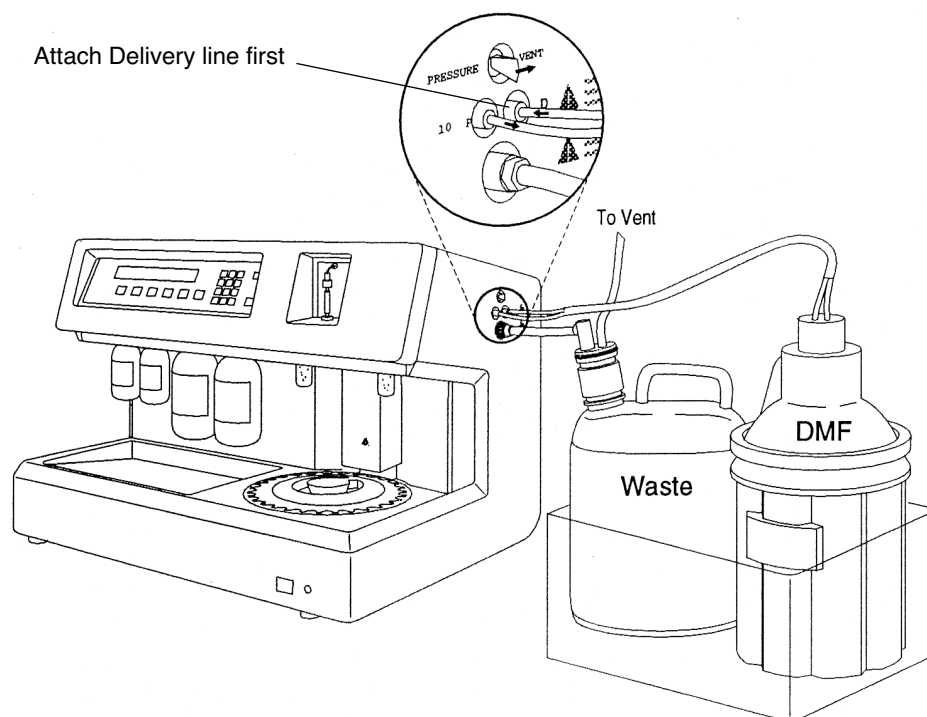

Figure 16. Switch to Vent and attach the DMF bottle
7. Place the DMF bottle in a safety carrier in front of the waste bottle (Figure 16). Screw the cap assembly tightly on the DMF reagent bottle, and press the **OK** soft key.